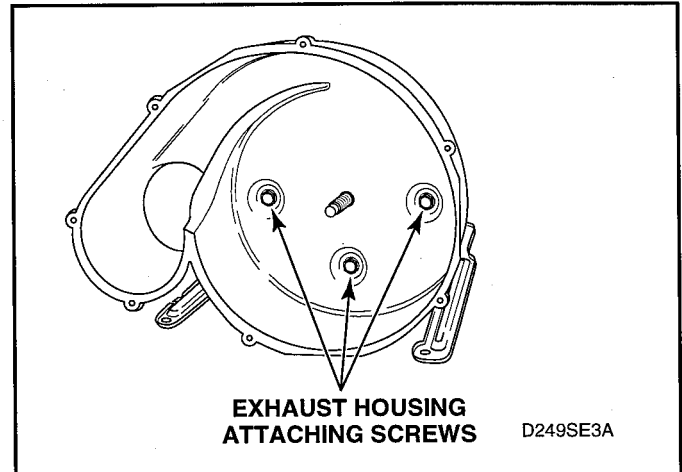

Figure 5-17
3. Remove three screws holding the exhaust housing to the motor mounting bracket. See figure 5-17.